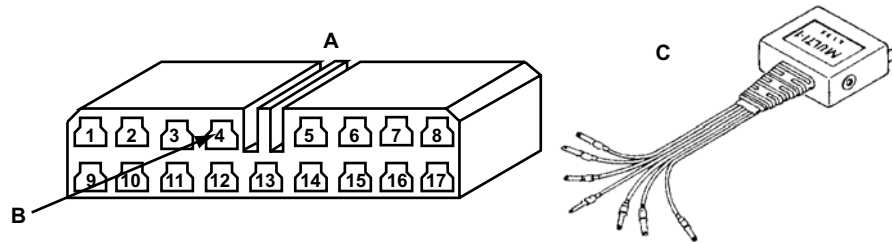

Figure 15-28 17-pin Check connector
- Connect the blue wire of the MULTI-1 adapter to pin 4 of the Check connector (Figure 15-28).
- Connect the blue wire of the MULTI-1 adapter to pin 11 of the Check connector (Figure 15-28).